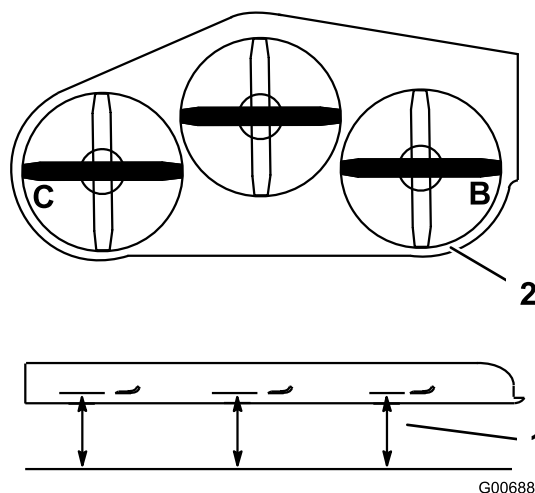

Figure 81
3. Position the blades side-to-side. Measure at **B** and **C** locations from a level surface to the cutting edge of blade tips (Figure 81).